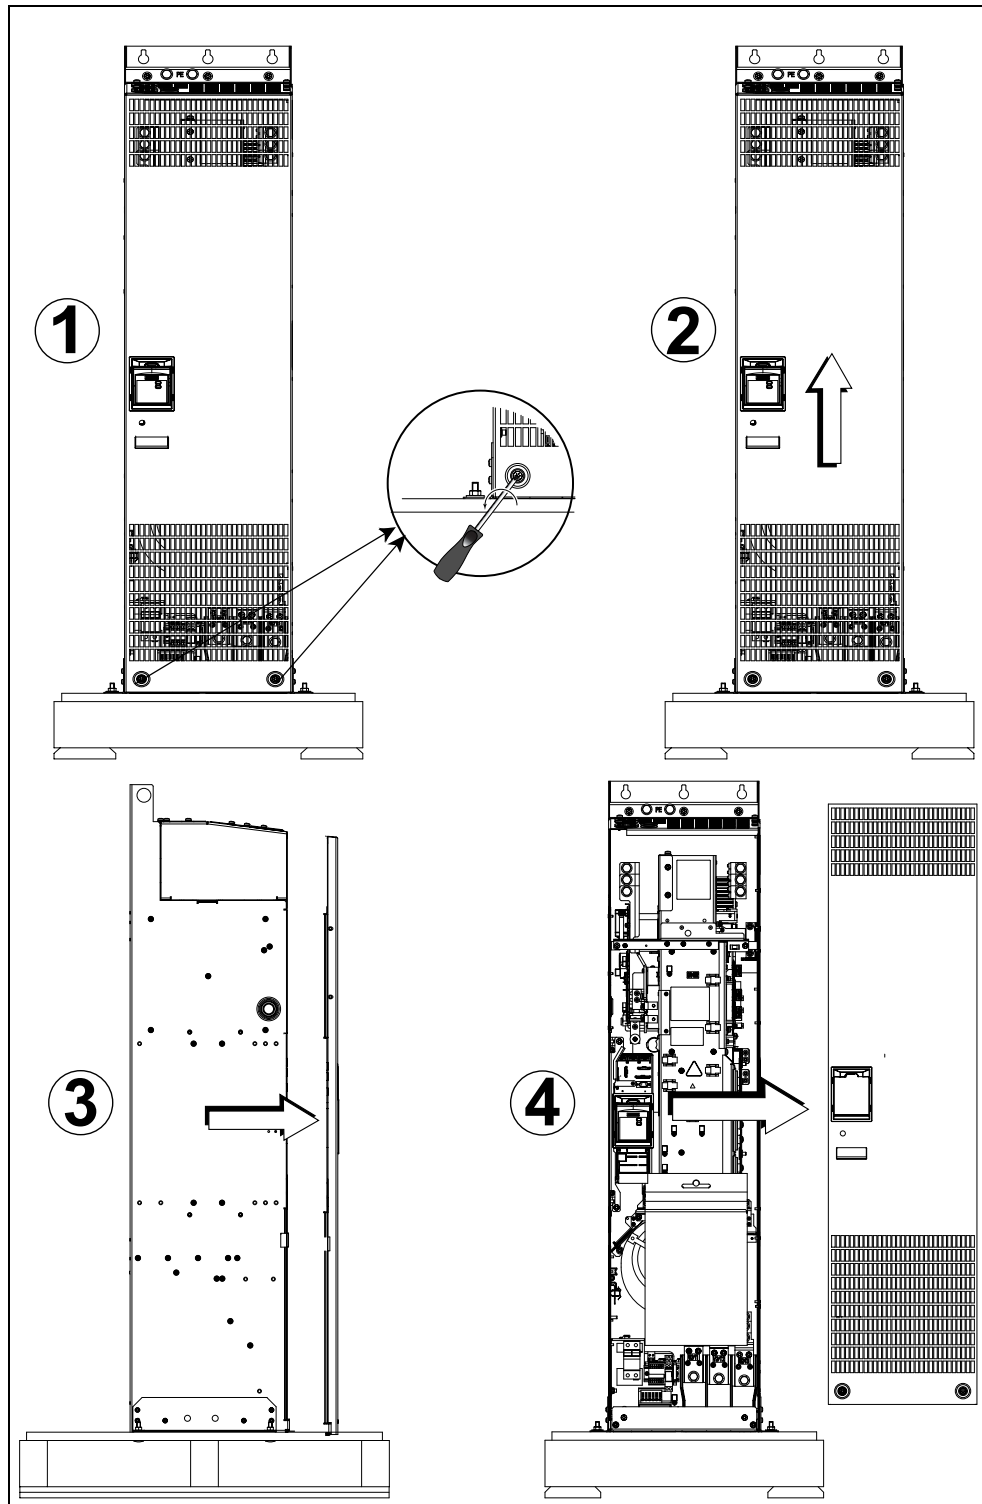

Fig. 2-4 Removing front covers (Frame Sizes FX and GX)
- Frame Sizes FX and GX (Fig. 2-4)